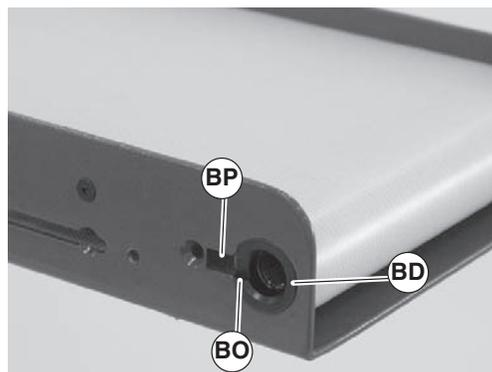

Figure 44
- Using sleeve arbor tool (BK) as a lever, push the retaining sleeve (BD) fully in.
- Align slot (Figure 44, item BO) in retaining sleeve (BD) with slot in conveyor frame (BP).